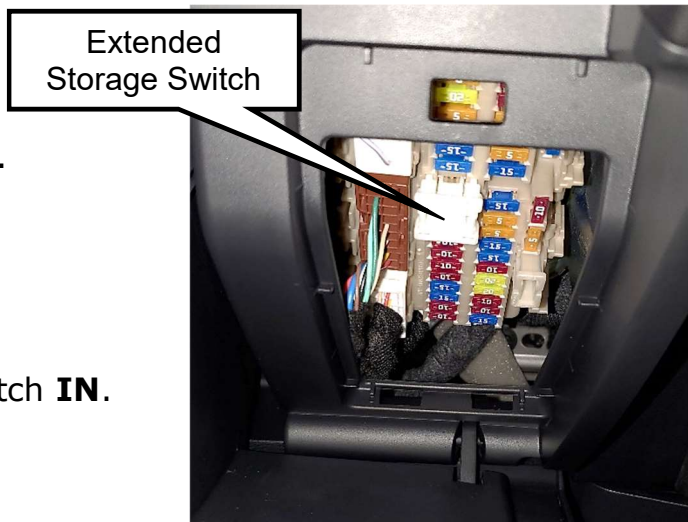

Figure 1
1. Verify the extended storage switch is pushed **IN** (Figure 1).